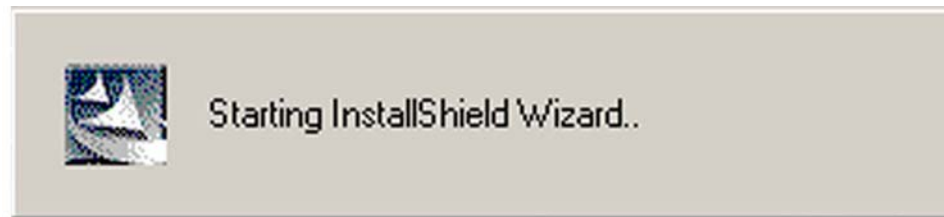

Figure 6-9: Audio Driver Install Shield Wizard Starting
- Step 2:** Once the double click the **Setup** icon is clicked, the install shield wizard for the audio driver starts. See **Figure 6-9**.